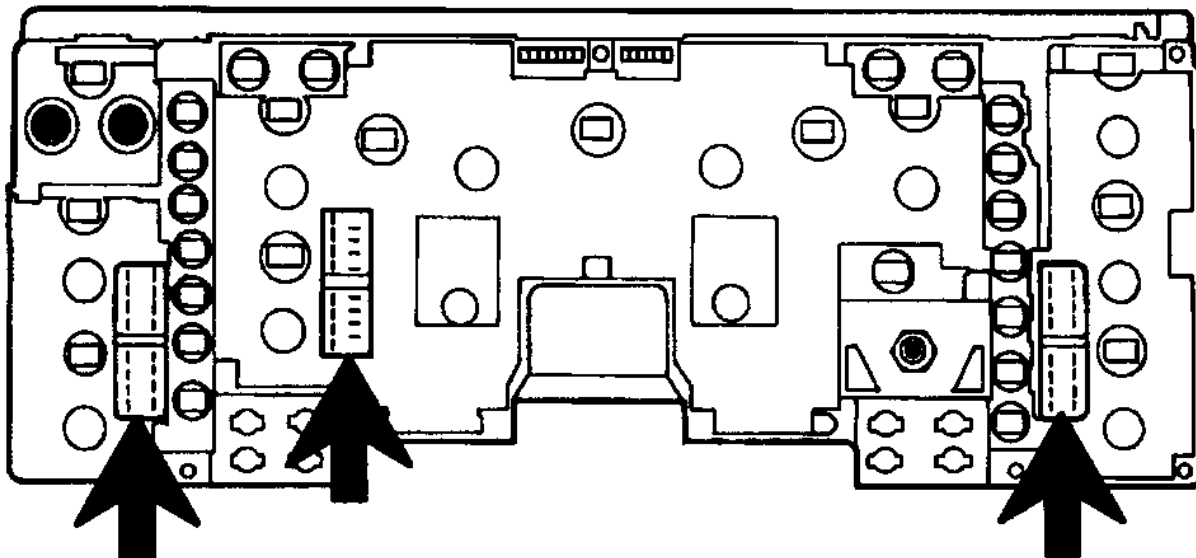

Figure 15 Disconnect Wiring Harness Connectors
5. Disconnect the three wiring harness connectors from the back of the cluster assembly (Figure 15).